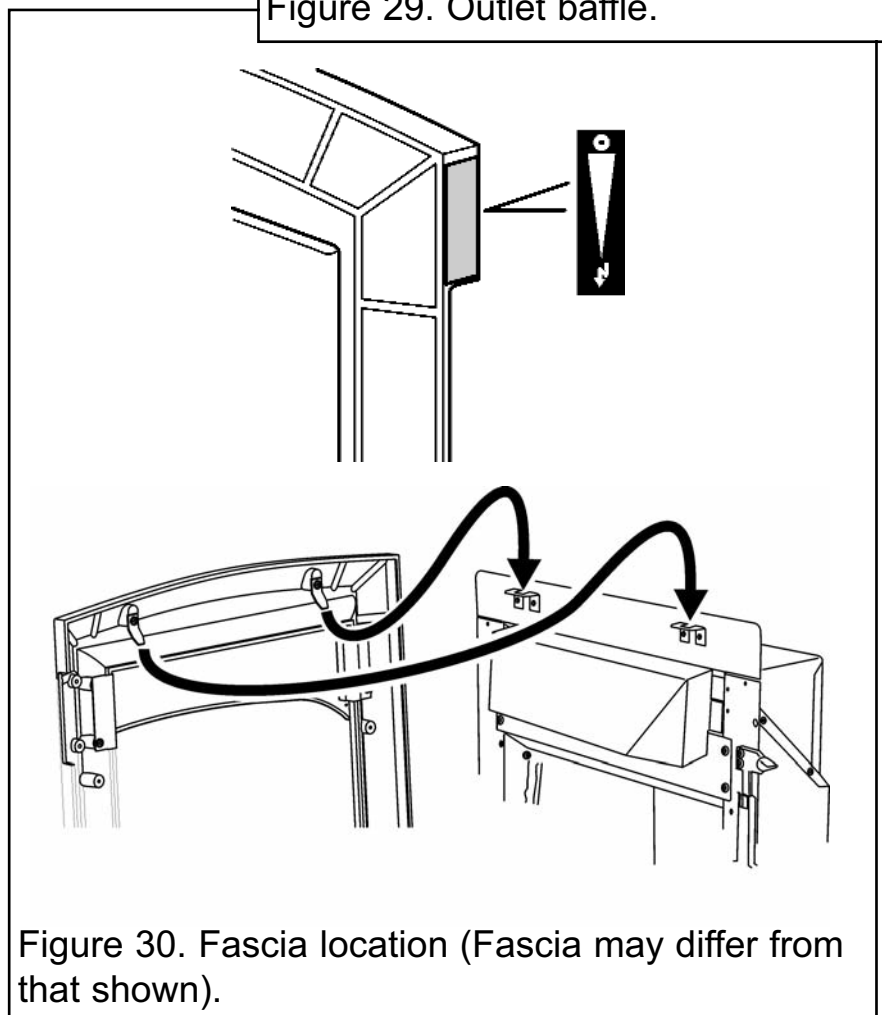

Figure 30. Fascia location (Fascia may differ from that shown).
1. Supplied with the fire is a self adhesive control position label. Peel the backing from the label and place as in figure 30.
2. Place the fascia against the fireplace front surface so that the two retaining plates at the back of the fascia are above the two upper retaining brackets at the top of the convection box. Lower the fascia making sure that the rear retaining plates locate fully into the retaining brackets on the convection box (See figure 30). If the inlet pipe runs along the front of the fireplace, the bottom of the fascia will have to be swung forwards to clear the pipe while lowering the casting.
2. Supplied with the fire is a self adhesive control position label. Peel the backing from the label and place on the fascia underneath the slider knob (See figure 30).